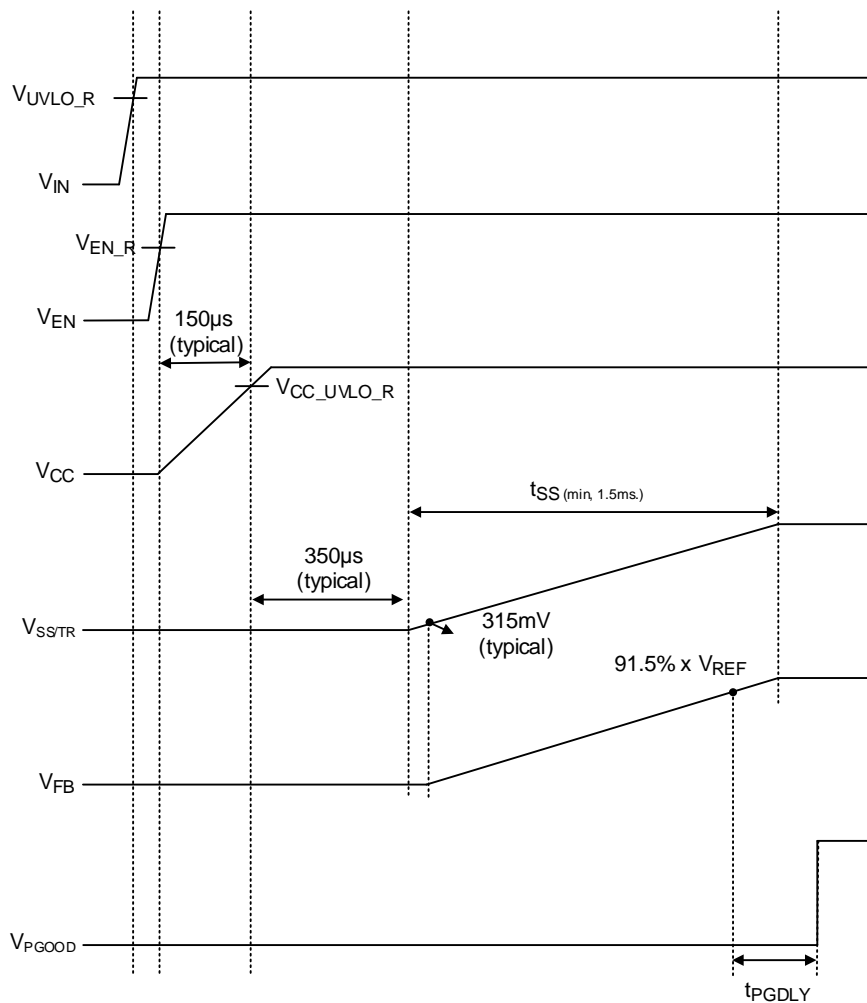

Figure 1. Power-Up Sequence
**Figure 1** shows the typical power-up sequence of the device. When the voltage on the  $V_{IN}$  and  $EN$  pins crosses the input undervoltage lockout rising threshold and  $EN$  input rising threshold. After the voltage on the  $V_{CC}$  pin reaches the  $V_{CC}$  undervoltage lockout rising threshold. The device will start switching if the voltage difference between the SS/TR pin and  $FB$  pin is equal to 315mV (for example,  $V_{SS/TR} - V_{FB} = 315\text{mV}$ , typical) after setting detection is completed. The SS/TR pin should never be left unconnected for soft-start control. After the  $V_{FB}$  rises above the  $V_{TH\_PGLH1}$  (91.5% of  $V_{REF}$ , typical), the  $PGOOD$  pin will enter a high impedance state after delay time  $t_{PGDLY}$  (0.8ms, typical).